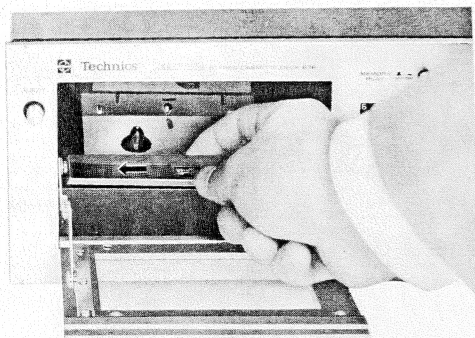
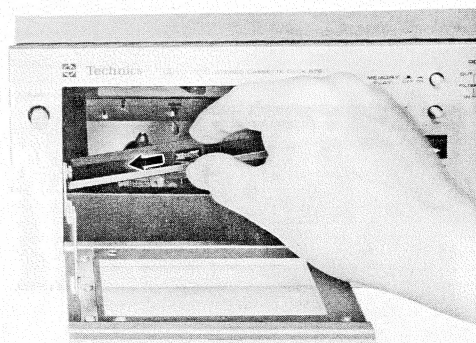

Fig. 7
Fig. 8
1. Pushing the head cover as shown in fig. 7, and lift it up as shown in fig. 8.